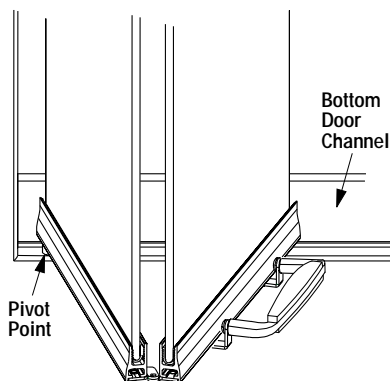

Figure 10
Step 5. Lift and swing the lower corner of the door over the hole in the bottom door channel and engage the shorter hinge pin into this hole (Figures 10 and 11).